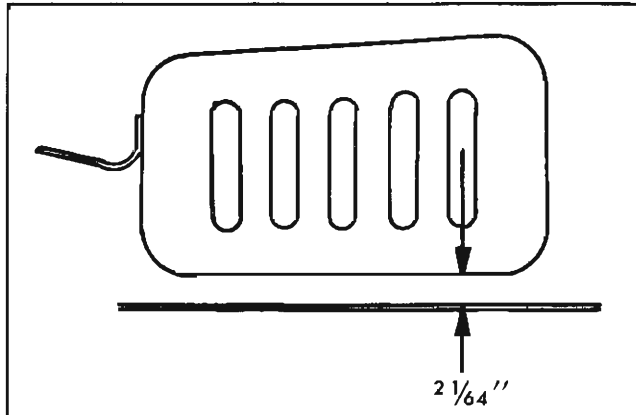

Fig. 6B-119 Float Level Check
20. Install primary venturi and gaskets on choke and pump side of carburetor (Fig. 6B-118).